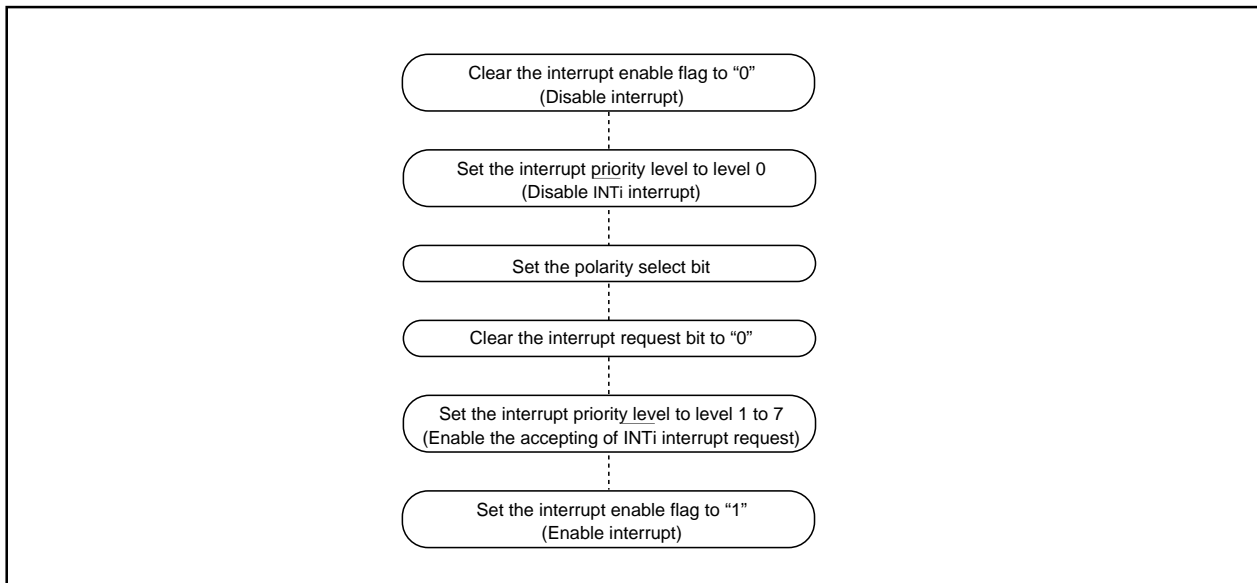

Fig.DD-18 Switching condition of INT interrupt request
- When the polarity of the  $\overline{\text{INT}}_0$  to  $\overline{\text{INT}}_{11}$  pins is changed, the interrupt request bit is sometimes set to "1". After changing the polarity, set the interrupt request bit to "0". Fig.DD-18 shows the procedure for changing the  $\overline{\text{INT}}$  interrupt generate factor.